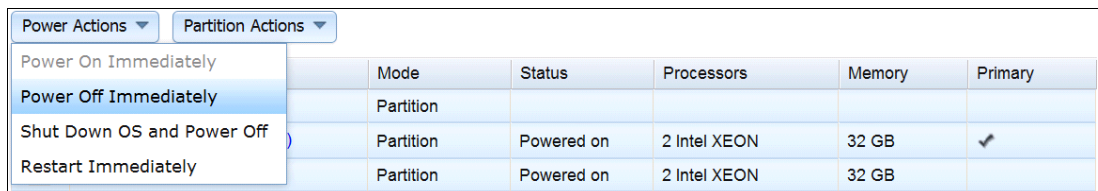

Figure 5-75 Power Actions menu
- Check the option the left of the server that you intend to power off. When selected, you can turn off the server via the Power Actions menu, as shown in Figure 5-75.